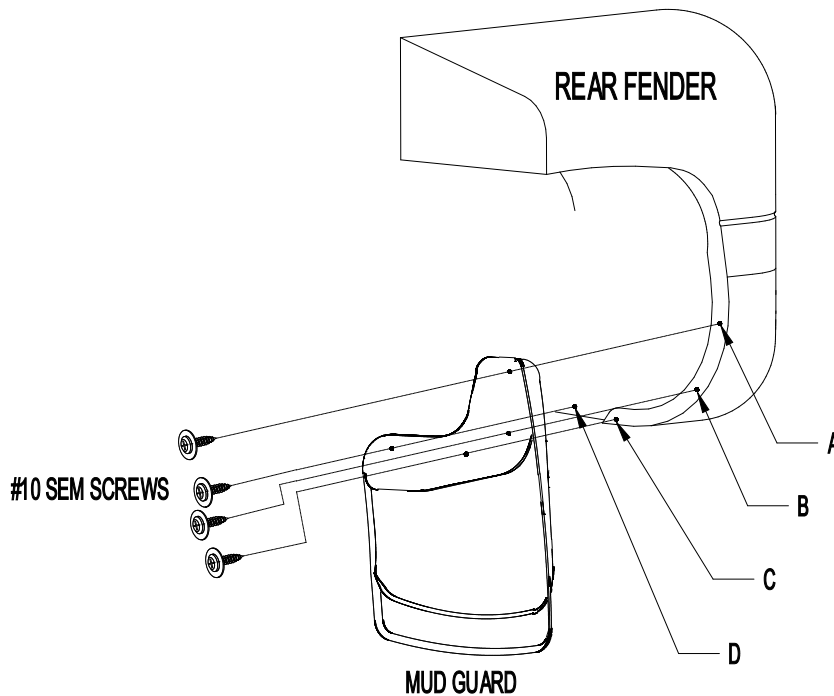

Figure 1.
2. Remove existing fasteners from locations A and C (Figures 1).
4. Using mud guard as a template, mark, center punch, and drill 1/8" holes at locations B and C and attach with a #10 SEM screws (Figure 1).